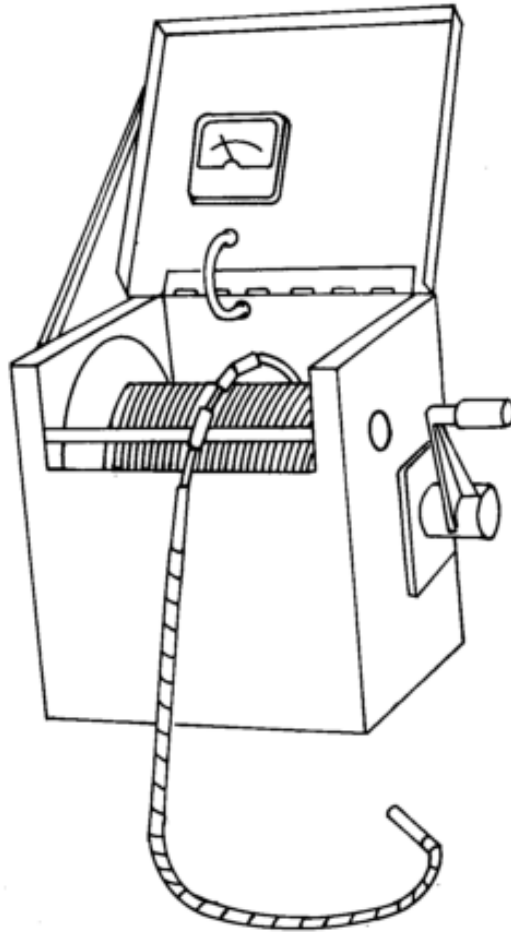

Figure 8-2. M-Scope
a. *Electric-Line Method.* Water levels can be measured accurately with a two-conductor, battery-powered indicator known as an M-Scope (Figure 8-2). Well-completion kits usually contain an M-Scope. The M-Scope is a battery and a meter connected in series. When the upper wire on the tip of the M-Scope in the well touches the water, the circuit is completed and the meter gives a steady reading. Measure the amount of wire in the well to determine the depth to the water level. The wire is marked at 5-foot intervals for easy measuring.